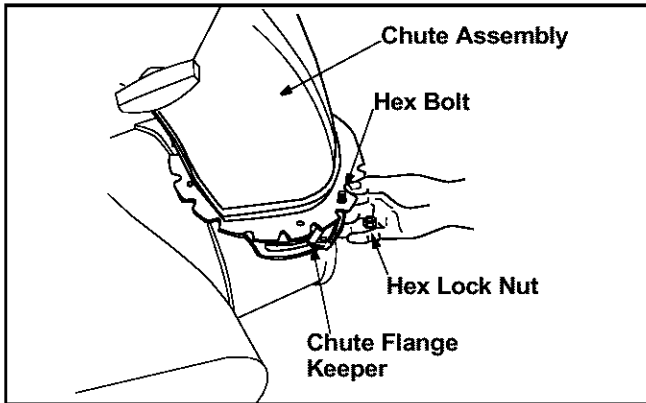

Figure 10
- Place chute flange keepers beneath lip of chute assembly with flat side down. See Figure 10.